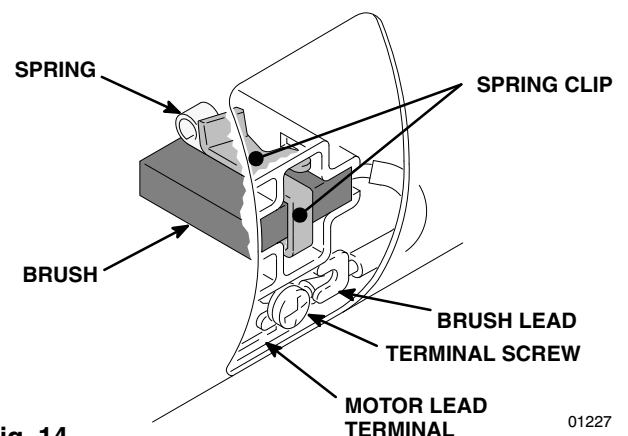

Fig. 14
4. Loosen the brush lead terminal screw. Pull the brush lead away, leaving the motor lead terminal in place. Remove brush and spring. See Fig. 14.
7. Slide the terminal under the terminal screw washer and tighten the screw. Be sure the motor lead is still connected at the screw. See Fig. 14.